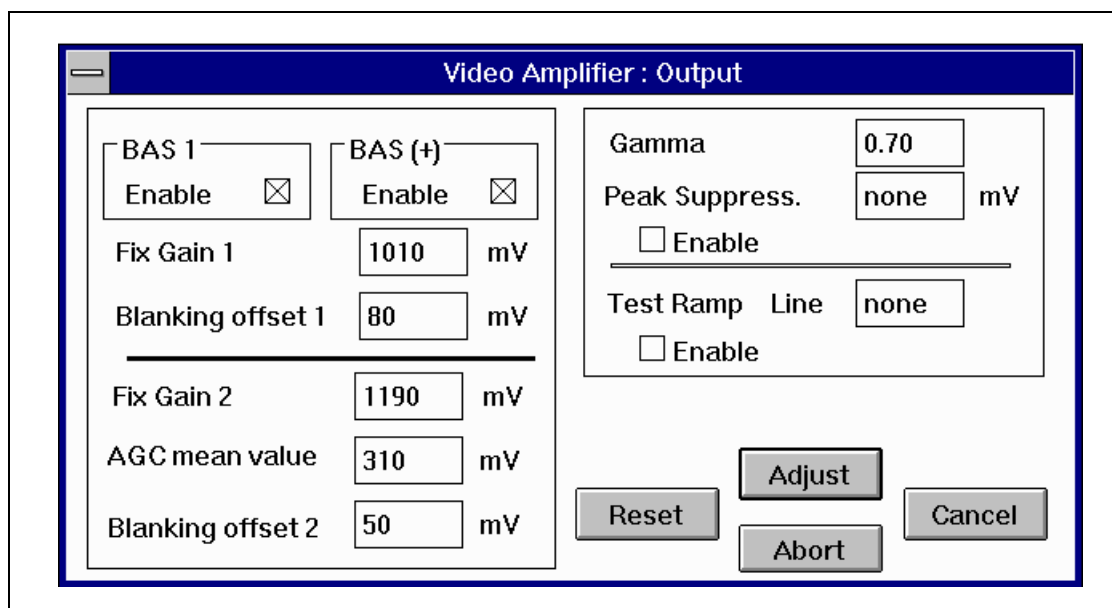

Fig. 7
"none" appears in the **"Peak Suppress"** box (Fig.7).
- Call up **<Configuration><Video Amp>** in the VIDEOMED S Service Program (Fig. 7).